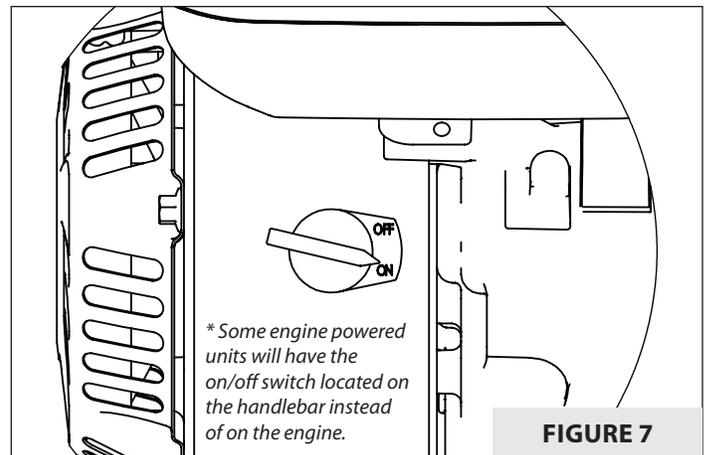

FIGURE 7
4. Turn the On/Off switch to the ON position. *(Some engine powered units will have the on/off switch located on the handlebar instead of on the engine.)* **SEE FIGURE 7.**